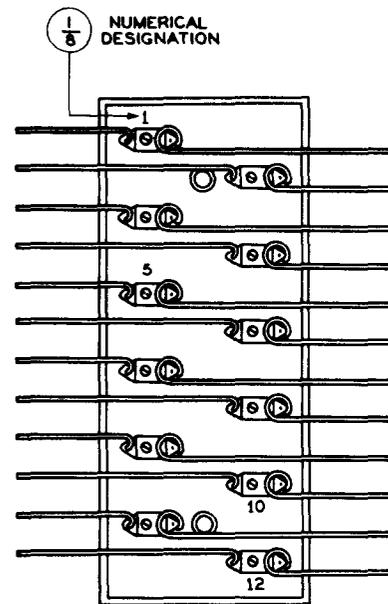

Fig. 16 - Connecting Block
2.26 Connecting blocks on the power board will have the number stamped adjacent to the first and last terminal and each intermediate terminal whose number is a multiple of five, as in Fig. 16. Functional designations may be stamped on the barrier strip. (See Fig. 49.) Also, see Section 800-613-151 and 1.04.